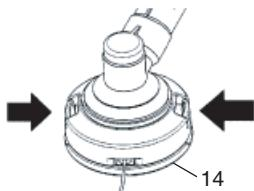

Fig. 21
- (1) Remove the case (14) by firmly pushing inward the locking tabs with your thumbs as shown in Fig. 21.